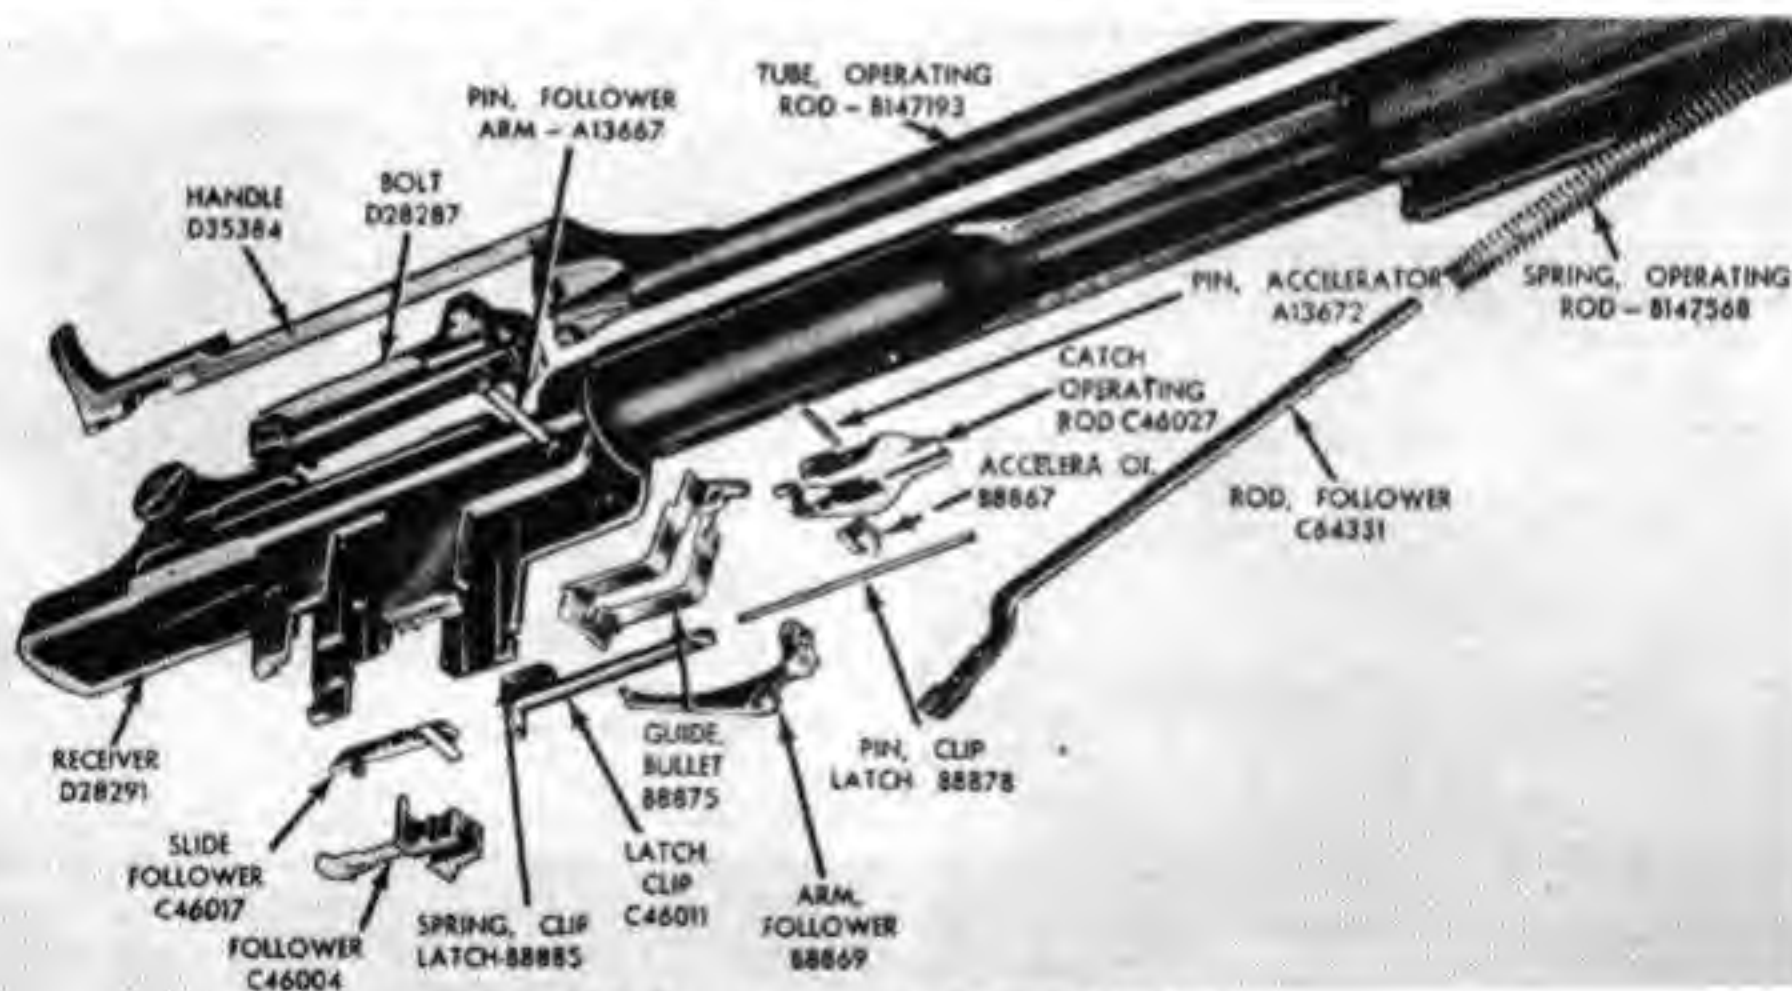

Fig. 111. Receiver group - disassembled view.
42. Follower and slide assembly: disassemble the follower and follower slide (Fig. 111) only when necessary to repair or replace parts. If necessary to disassemble, insert the blade of a screwdriver under the front end of the slide (Fig. 114), pry upward and forward, unlocking the slide from the follower.